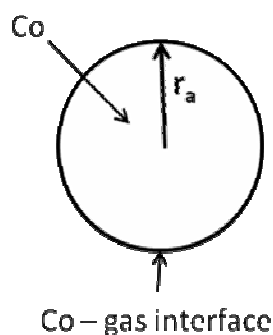

Fig. 1
Catalyst (e.g. cobalt) is often used in the form of solid nanoparticles that have a spherical structure (fig.1). The reduction in size of the catalyst increases catalytic activity significantly. The unwanted side-reaction however involves the oxidation of the catalyst:
2.1.2 Calculate the equilibrium constant for reaction (1) when the cobalt catalyst is dispersed in the form of spherical particles (Fig.1) of radius
- (b) spherical nanoparticles with $r_a = 1 \text{ nm}$ (Fig. 1).